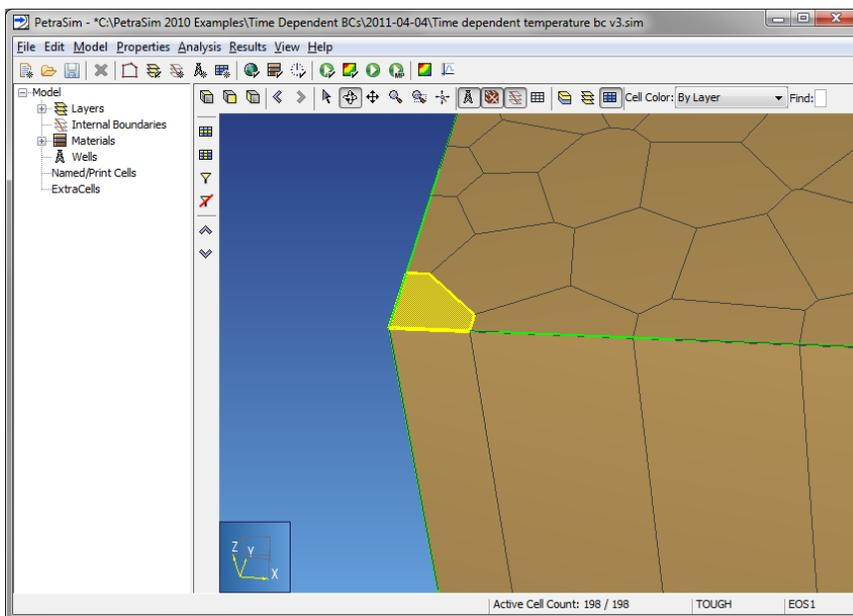

Figure 6: Selection of lower left cell in thin top layer
1. Spin the model and click on the top cell in the lower left corner top layer cell, Figure 6. Note that the projected area is  $0.4217 \text{ m}^2$  and that the volume is  $4.2169\text{E-}3 \text{ m}^3$ .